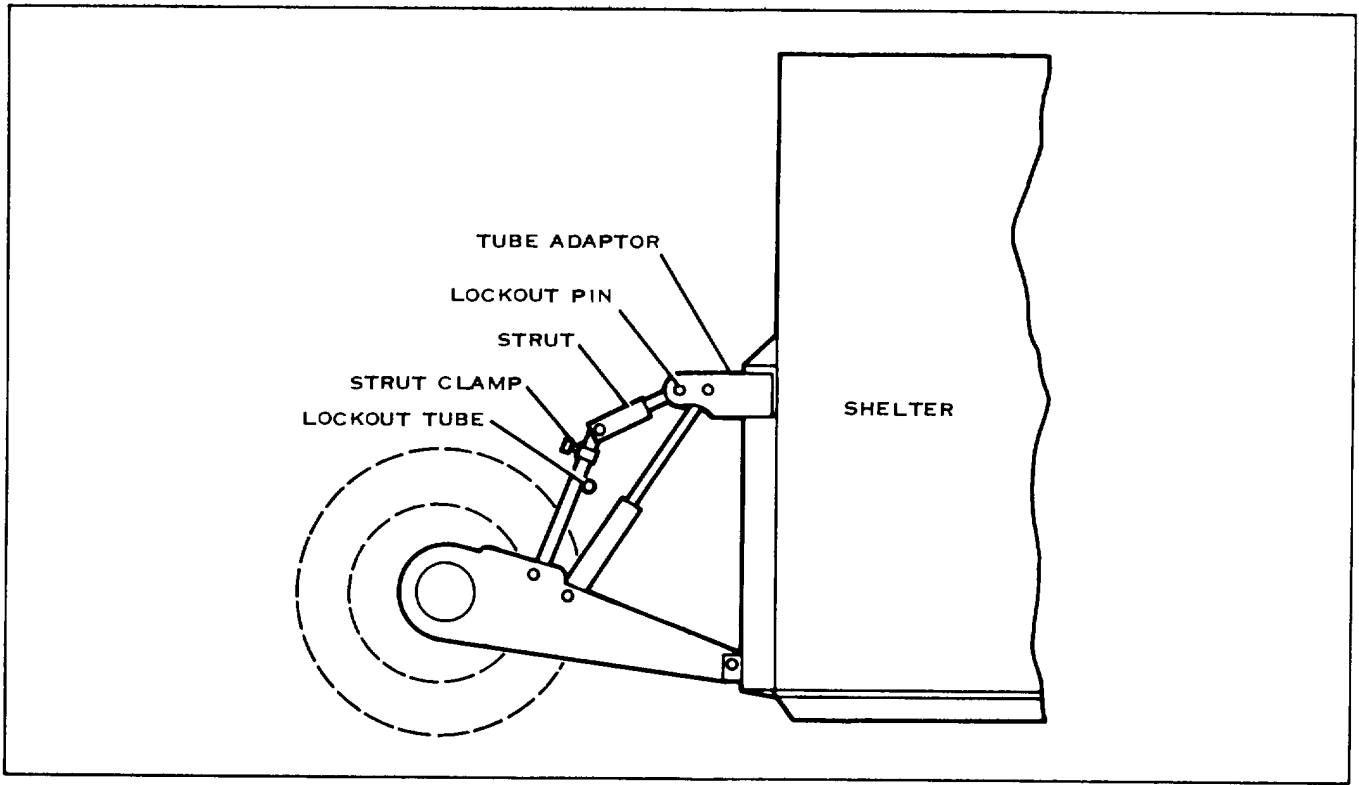

Figure 2-5. Mobilizer With Shelter Partially Raised
- e. Thread the binder bolts into each of the four (4) upper attachment points.
- g. Loosen strut clamp. Remove lockout pin. Bend strut and align with lockout pin hole as shown in figure 2-5. Reinstall lockout pin.